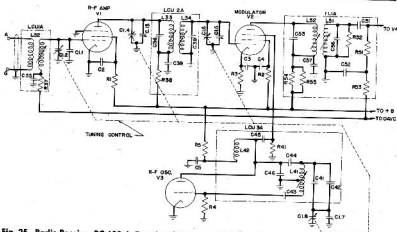

Fig. 25. Radio Receiver BC-683-A: Functional Diagram of R-f Amplifier, Modulator, and R-f Oscillator
c. R-f Amplifier, Modulator, and R-f Oscillator. Figure 25 is a functional diagram of the radio-frequency amplifier (V1), modulator (V2), and radio-frequency oscillator (V3) circuits.